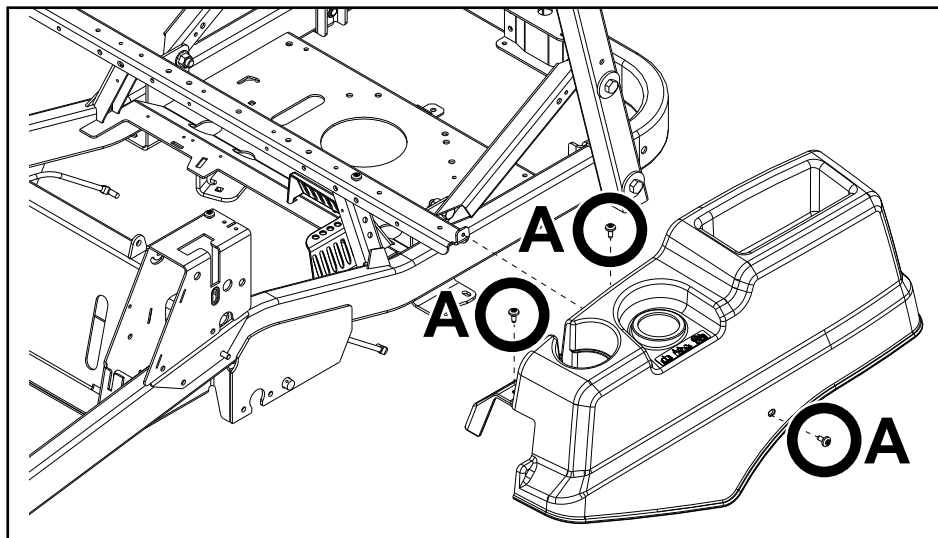

Fig. 010
5. Install the (3) screws (A) that secure the fender to the unit frame and torque to specifications - 7 ft-lbs. (9 Nm).
6. Connect battery terminals and lower seat. (Fig. 010)